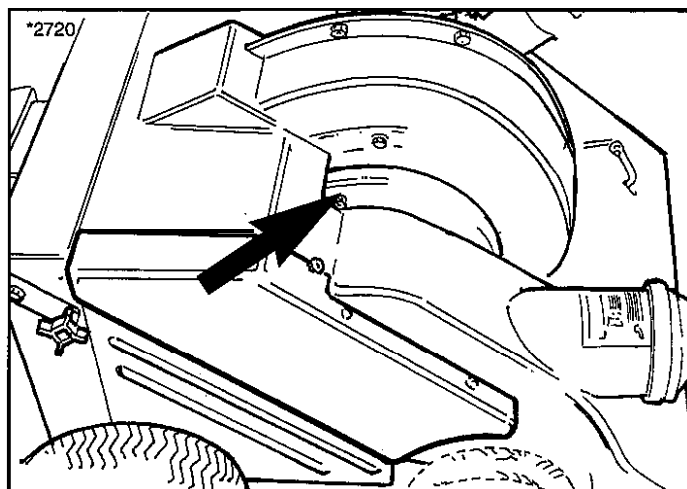

Figure 15. Remove Cover Panel Fasteners
2. Remove top cover by prying up panel fasteners with a flat blade screwdriver. Pry panel fastener heads up to permit gripping with fingers, then pull fastener heads to remove fastener (Figure 15).